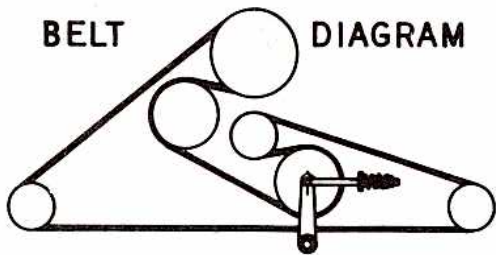

fig 6
- C. Put on new belt as per diagram on mower deck and loosen belt tension, fig 6.